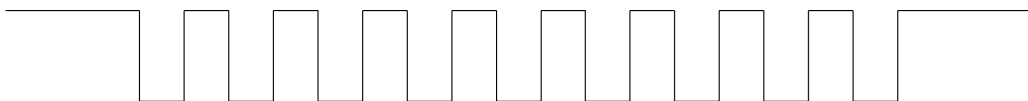

Figure 36-4. Master Clock Negative Waveform
- **Scenario 3:** The clock sent by the master device is not a free-running clock, and the clock waveform is as shown in Figure 36-4.